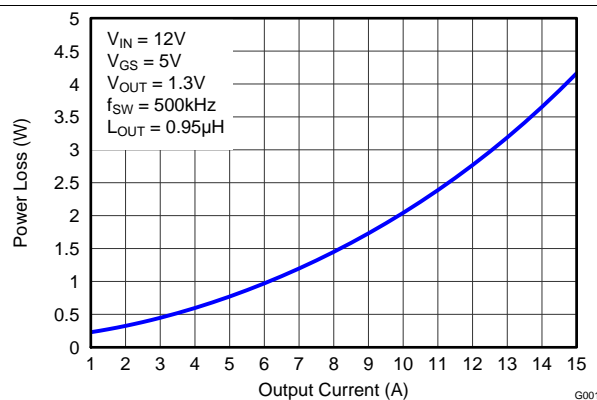

Figure 1. Power Loss vs Output Current
MOSFET-centric parameters such as  $R_{DS(ON)}$  and  $Q_{gd}$  are needed to estimate the loss generated by the devices. In an effort to simplify the design process for engineers, TI has provided measured power loss performance curves. Figure 1 plots the power loss of the CSD87381P as a function of load current. This curve is measured by configuring and running the CSD87381P as it would be in the final application (see Figure 27). The measured power loss is the CSD87381P loss and consists of both input conversion loss and gate drive loss. Equation 1 is used to generate the power loss curve.
The power loss curve in Figure 1 is measured at the maximum recommended junction temperatures of 125°C under isothermal test conditions.
- Power Loss at 8 A = 1.44 W (Figure 1)